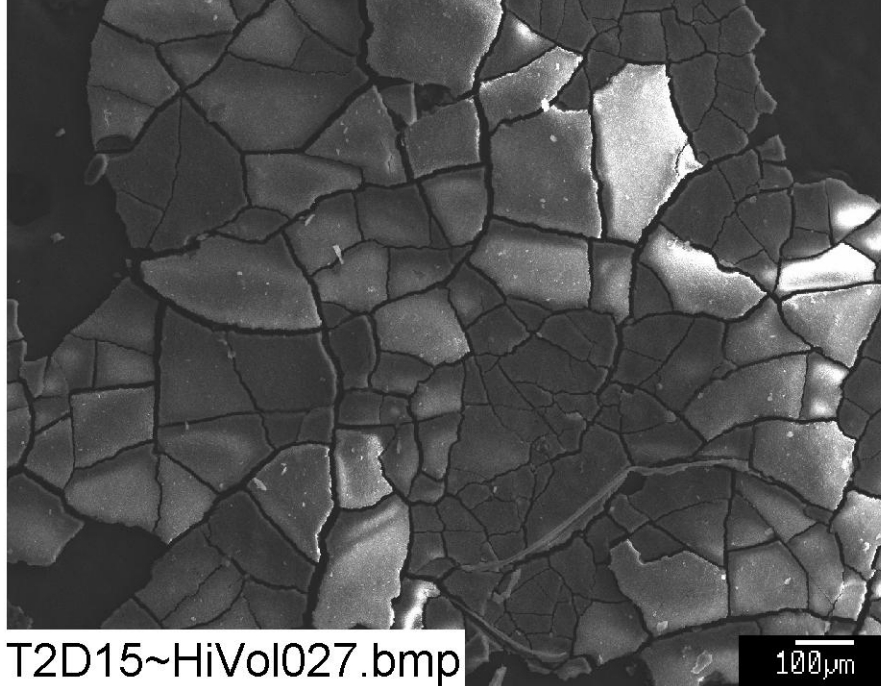

Figure A-1. SEM image at 120 \times magnification for a Test #2, Day-15 sample of particles on the high-volume filter. (T2D15_HiVol027)
- Figure A-1. SEM image at 120× magnification for a Test #2, Day-15 sample of particles on the high-volume filter. (T2D15_HiVol027) A-4